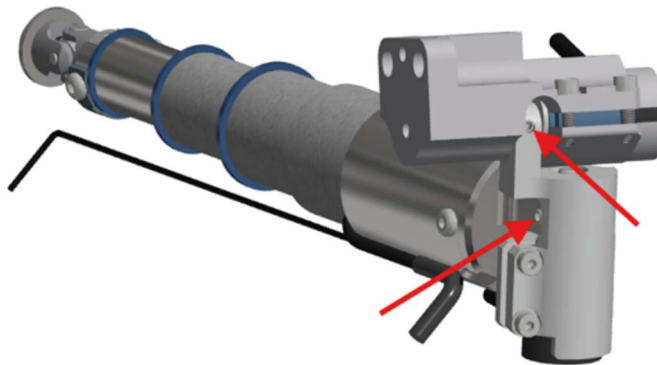

Figure 5-23. Loosen the potentiometer shaft set screws
- 5.2.18 Begin disassembly the Upper IR-TRACCs (474-3550-A and 474-3560-A) by loosening the two M2.5 X 0.45 X 3 LG. SSSCP Nylock potentiometer shaft set screws per assembly (Figure 5-23).